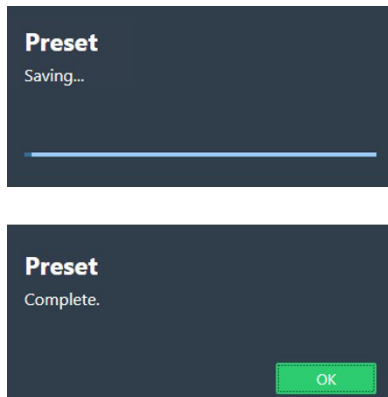

Figure 8. Connection Status Box
- A Preset status box opens (see figure 8, top).
- Wait for the Preset status to change from Saving... to Complete (see figure 8, bottom).